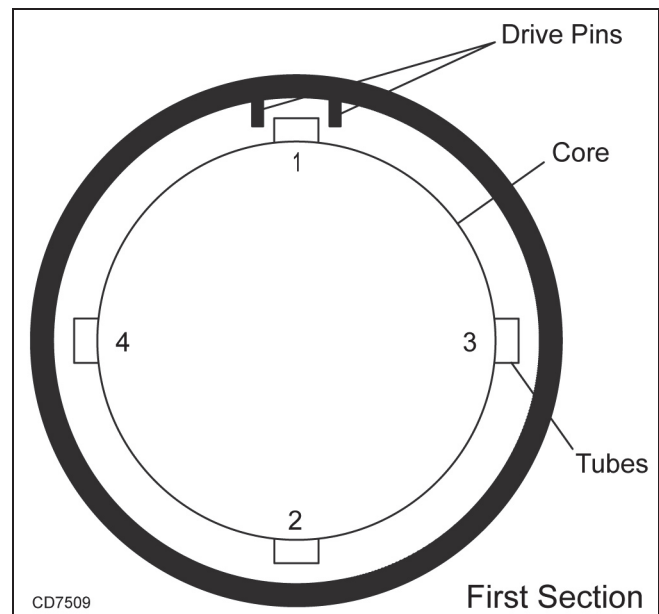

Figure 10. Number Tubes
1. Slide the first section onto the core. Make sure that the drive pins straddle the tube (rail) to prevent the section from spinning on the core (Figure 10).